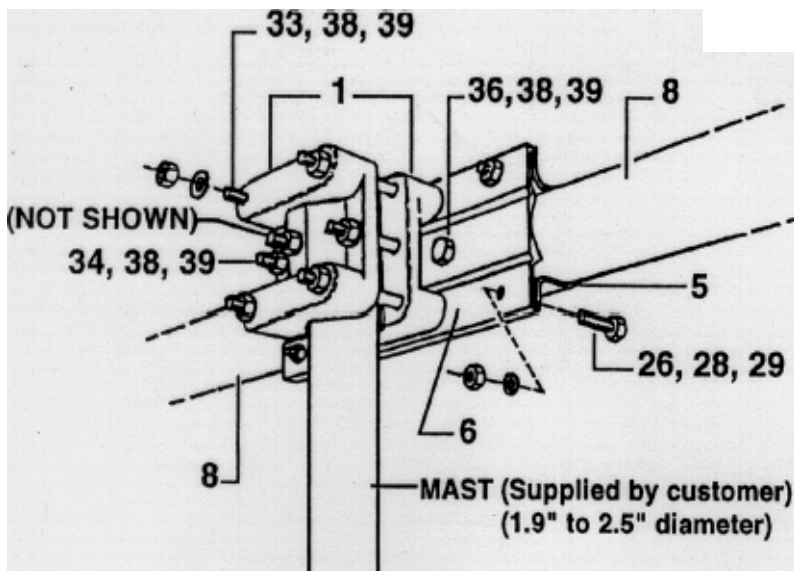

Figure 1 Boom-to-Mast Bracket
The cast aluminum boom-to-mast brackets must be removed from the temporary mast and installed on the permanent mast as shown in Figure 1. Attach a gin pole to the tower or mast to assist in lifting the antenna. There must be at least two (2) people available when installing this antenna. DO NOT try to install this antenna by yourself!